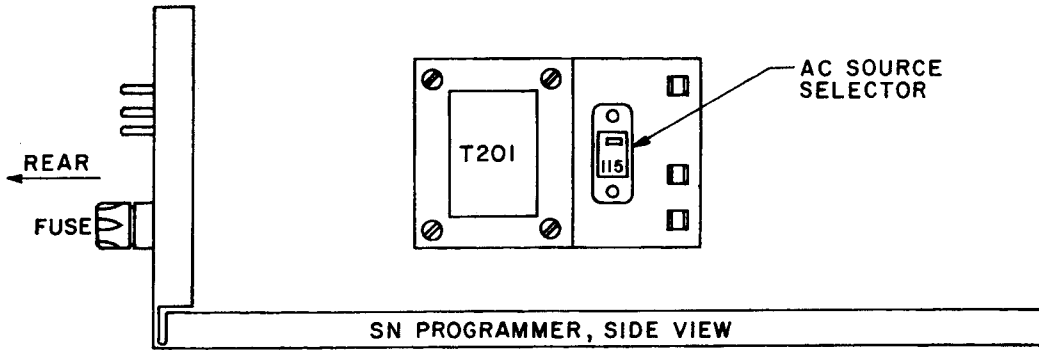

FIG. 2-3 A-C SOURCE VOLTAGE SELECTION
- 1) Remove unit cover and transfer A-C SOURCE SELECTOR to the "230" position (See Fig. 2-3).